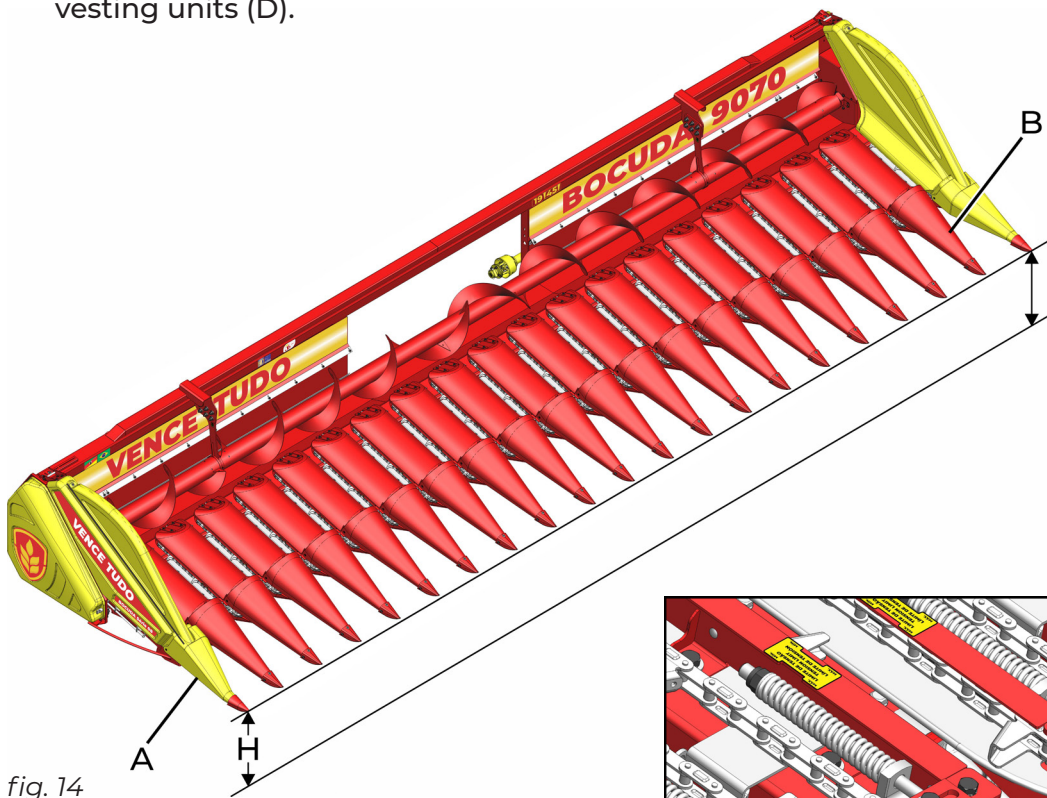
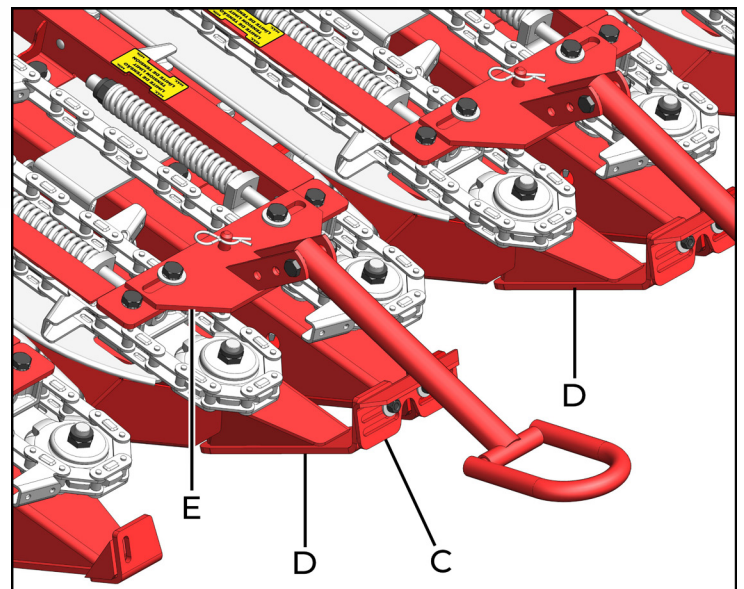

fig. 14
fig. 15
Adjust the combine's height according to the crop, positioning it according to the side and central tips, which should be set so that they are aligned in relation to the ground (see figures 14 and 15).
1. Begin with one of the header's side tips (A) (fig. 14), and adjust the others using the first as a guide;
2. Move the regulator bracket (C) (fig. 15) that is fixed on the harvesting unit (D) up or down, until reaching the desired angle for the central tips (B) (fig. 14).
3. If the angle is still not correct, use the extra hole in the switch lever (E) (fig. 15) found in the harvesting units (D).
When harvesting conditions are severe, the side tips (A) (fig. 14, page 35) should be kept 40 mm higher than the shields - front tips (B), and the shields - front tips should be perfectly aligned throughout the header. If your header carries a height sensor, it is recommended that the shields carrying the sensor rods be kept 15 mm lower than the other shields, in order to optimize the system.